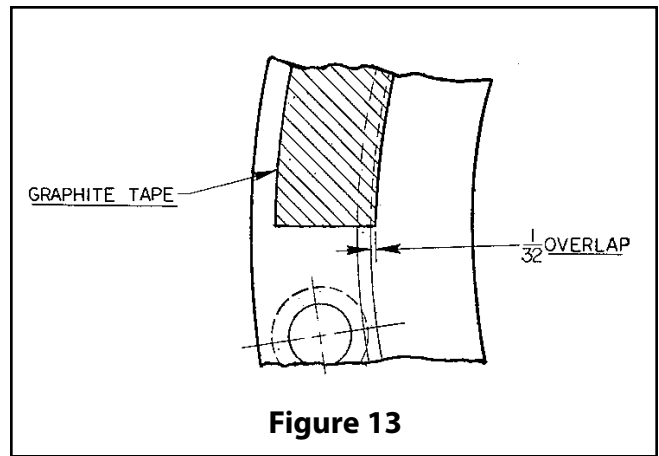

Figure 13
- d. Apply the tape on the insert, adhesive side to insert bottom, overlapping on the I.D. approximately 1/32" (Fig. 13). Do not peel backing more than 3 to